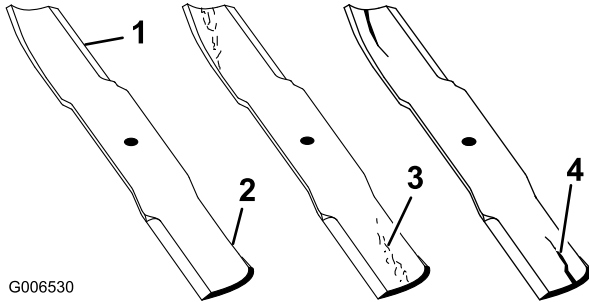

Figure 100
- Examine the cutting ends of the blade carefully, especially where the flat and curved parts of the blade meet (Figure 100). Since sand and abrasive material can wear away the metal that connects the flat and curved parts of the blade, check the blade before using the mower. If wear is noticed (Figure 100), replace the blade.